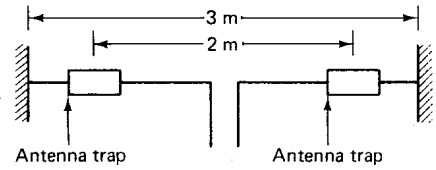

Fig. 6-28
- 6.15** An antenna is constructed as shown in Fig. 6-28 using antenna traps. Assuming a velocity factor of 1.0, determine the frequencies at which this antenna has been designed to operate.
Given: Antenna as shown in Fig. 6-28